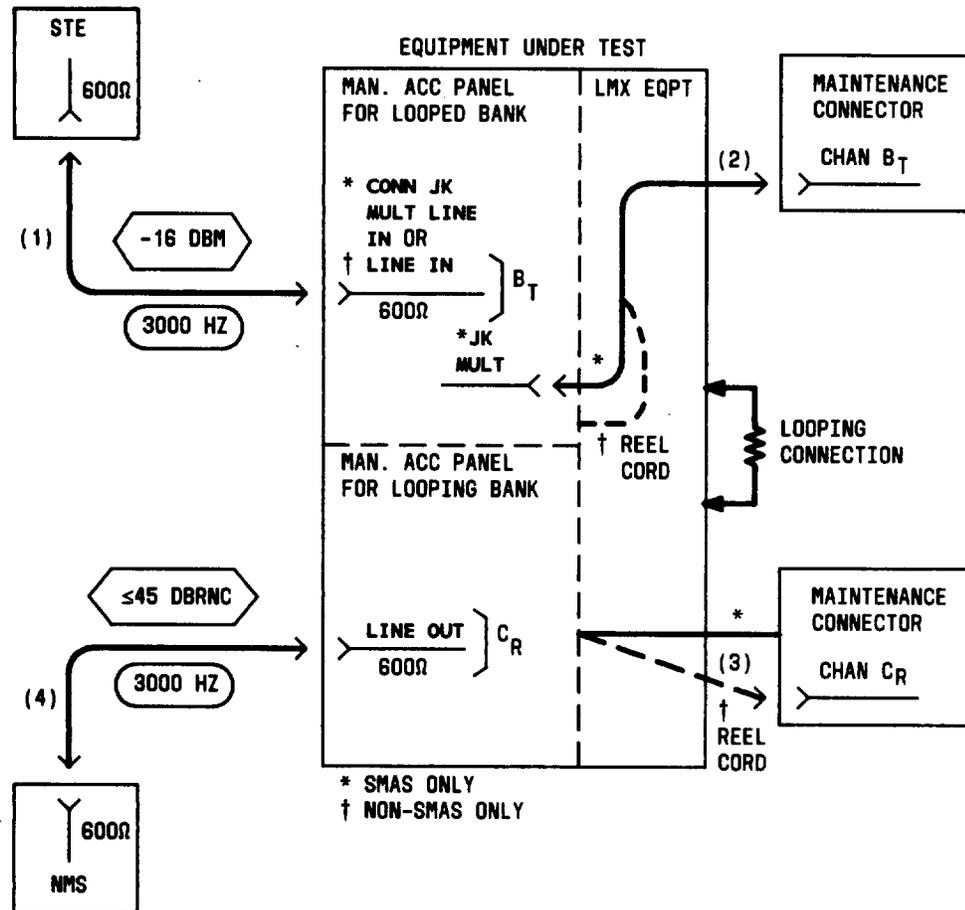

Fig. 16—Patching Diagram—Crosstalk Test—Equal-Level Looping—Upper Adjacent Channel (3000 Hz)
24a*	Connect the JK MULT connector (on the 22AR or AT MAP) to the CHAN BANK connector (on the maintenance connector) for the looped channel designated Br for Test A in Table G [patch (2), Fig. 16].
24b†	On the adjacent non-SMAS J98626() frame, connect the retractable cord (on the 22AU MAP) to the CHAN BANK connector (on the maintenance connector on the frame under test) for the looped channel designated Br for Test A in Table G [patch (2), Fig. 16].
25b†	Connect the retractable cord (on the 22AU MAP) to the CHAN BANK connector for the looping -channel position designated Cr for Test A in Table G [patch (3), Fig. 16].
27*	Connect the NMS to the LINE OUT jack [patch (4), Fig. 16].
- 31 Remove patch (2), Fig. 16 [and patch (3), if used] from the maintenance connector(s).